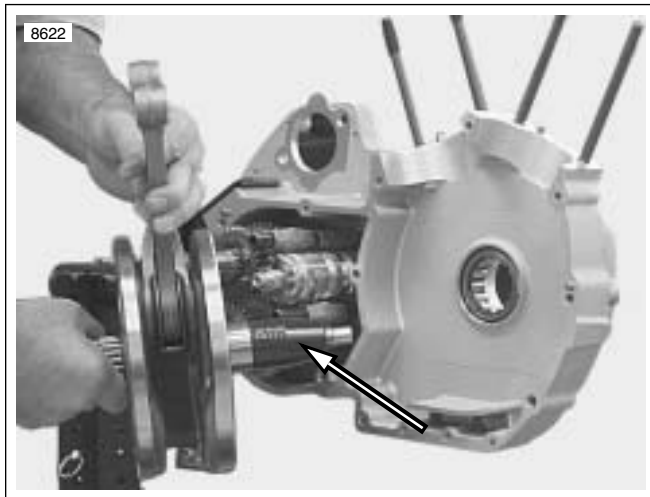

Figure 6-90. Installing Flywheel Assembly Using Crankshaft Guide Tool (Part No. HD-42326)
1. See Figure 6-90. Install the flywheel assembly into the left crankcase half using CRANKSHAFT GUIDE TOOL Part No. HD-42326.